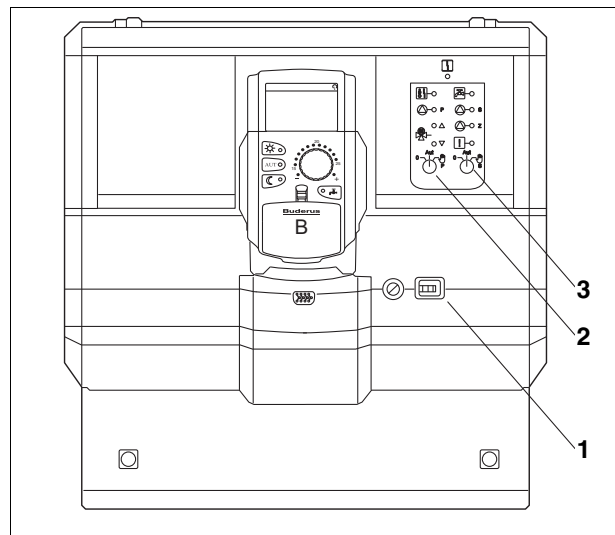

Fig. 26 Logamatic 4126
- Switch on the control unit via the ON/OFF switch (→ Fig. 26, [1]).
- Set primary circuit (→ Fig. 26, [2]) at selector switch  to manual .
- Set secondary circuit (→ Fig. 26, [3]) at selector switch  to manual .